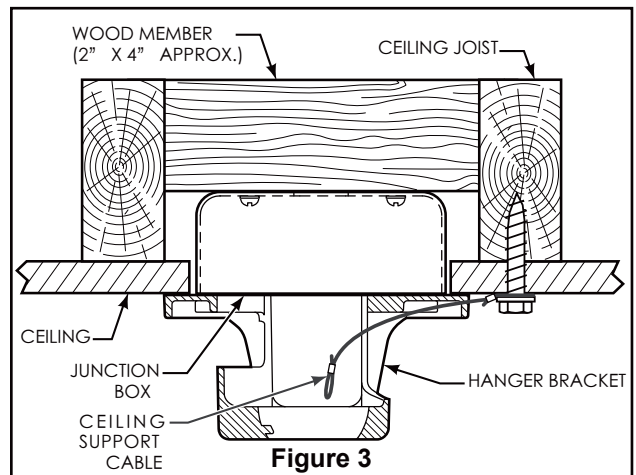

Figure 3
1. Using the $\frac{3}{8}$ " x 2" lag bolt and flat washer, attach safety cable to ceiling joist or wood structural member. The lag bolt will pass through the flat washer, safety cable loop, and into the building structure (Figure 3). You will first drill a $\frac{1}{4}$ " pilot hole into the building structure to prevent splitting or cracking.
NOTE: Ceiling support cable cannot be secured to junction box only, it must be directly secured to ceiling joist or structural member using the $\frac{3}{8}$ " x 2" lag bolt and flat washer. (Figure 3)
2. Connect green wires from hanger bracket and downrod to bare (ground) wire using wire connector. Connect black wire from receiver unit marked "AC IN L" to black supply wire using wire connector. Connect white wire from receiver unit marked "AC IN N" to white supply wire using wire connector. Connect white wire from receiver unit marked "TO MOTOR N" to white wire from fan using wire connector supplied with receiver unit. Connect black wire from receiver unit marked "TO MOTOR L" to black wire from fan using wire connector supplied with receiver unit. Lastly, connect blue wire from receiver unit to the blue fan light wire using wire connector supplied with receiver unit. (Figure 3)